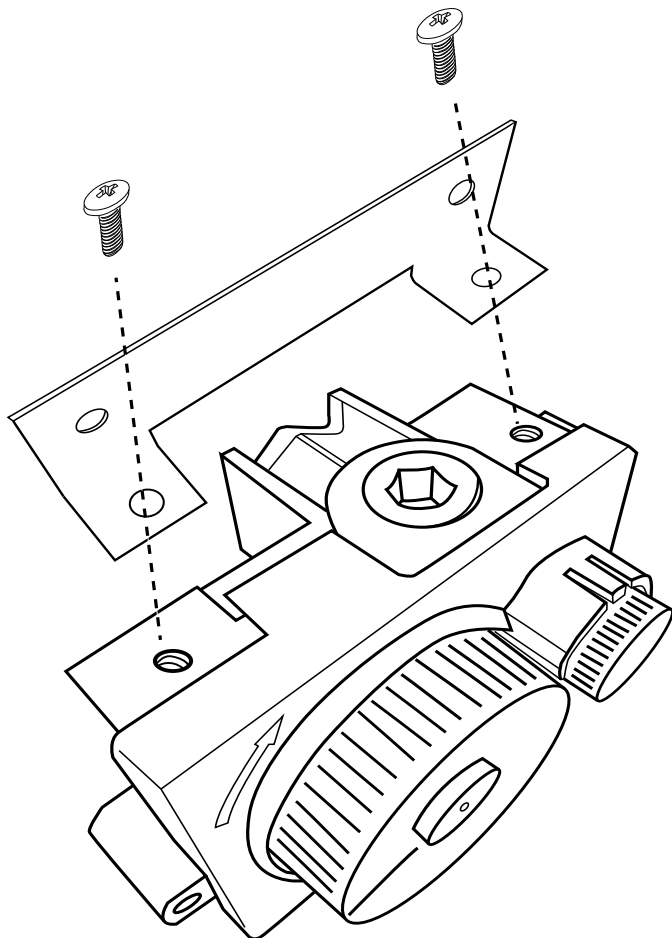

Fig. 1 Installing mounting brackets to ESTOP gas timer.
Step 1: Use the four (4) screws provided in the ESTOP gas timer box and install the two (2) mounting brackets to each side of the ESTOP as shown in Fig. 1.